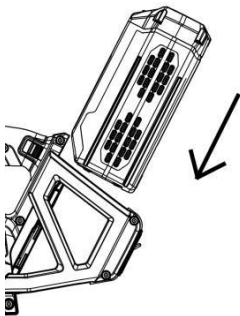

Fig 12
1. Insert Sunseeker 4Ah battery pack (Model# LBC60140) into the socket, until you hear a clear “click” sound (Fig 12).